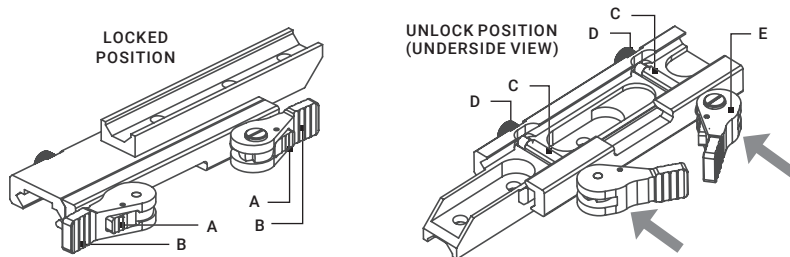

FIGURE 2-3. MOUNT
1. Unlock the clamping device of the scope mount by pushing down on the lever holders (A, see Figure 2-3) and unlocking the levers (B).
2. Install the scope on the Picatinny/ Weaver rail so that the stops (C) slides into the transverse slots on the rail.
3. Affix the scope to the rail by locking the levers (B).